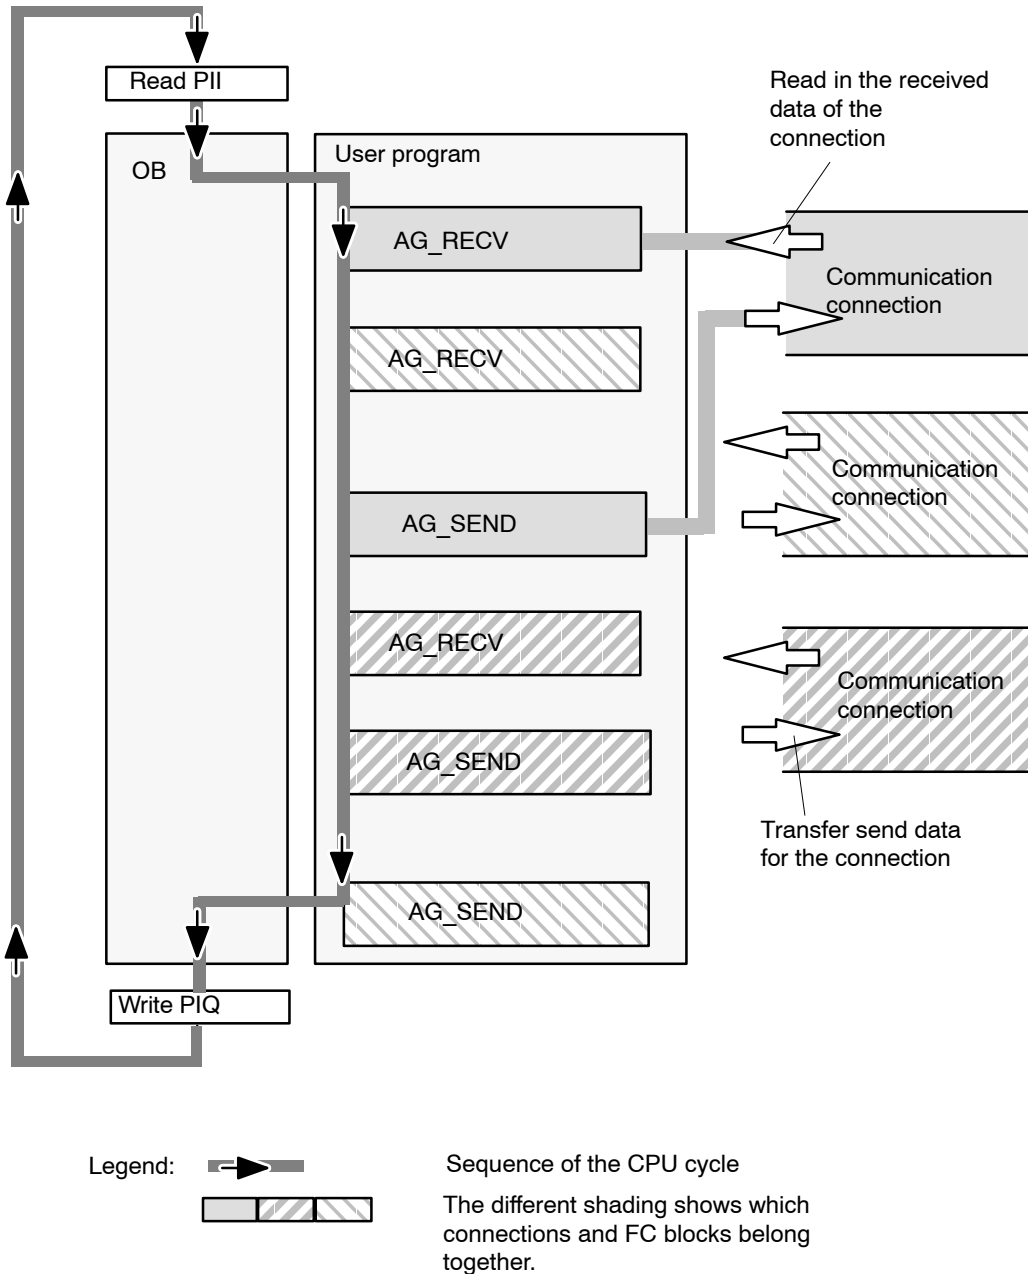

Figure 4-2 Typical Sequence of Function Calls in the CPU Cycle
- The user program consisting of any number of blocks (OBs, FBs or FCs -> see also /6/) accesses several connections (Figure 4-2 illustrates three connections).